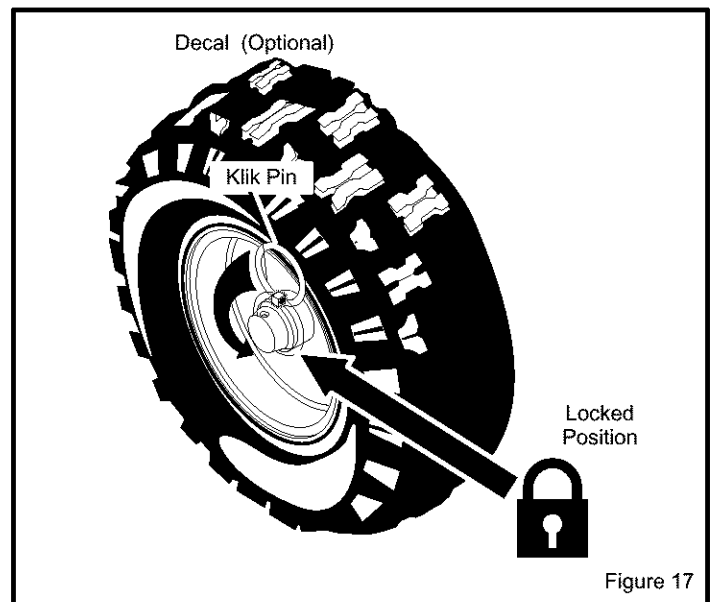

Figure 17
1. The left hand wheel is secured to the axle with a klik pin. This unit was shipped with this klik pin in the locked position. (Figure 17).